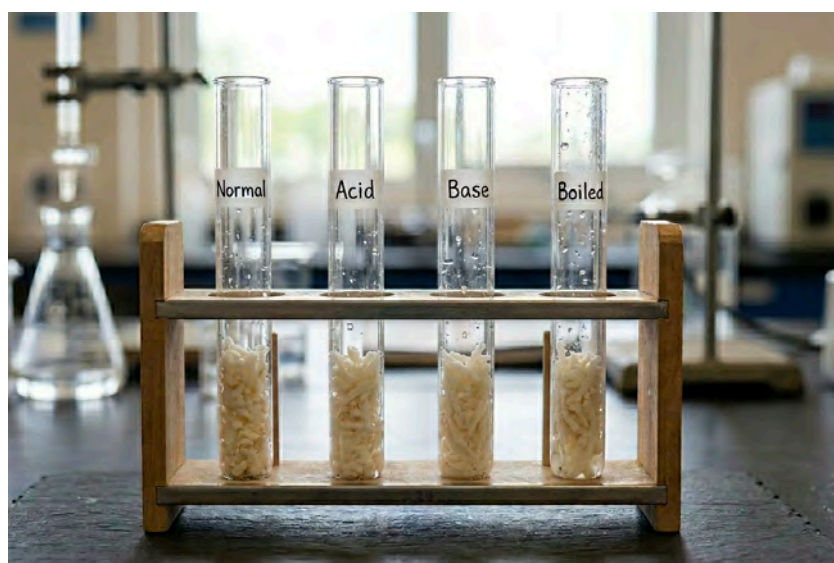

Figure 3. Four test tubes with grated sugar beet.
2. Fill 4 test tubes to 2 cm with 2.5 g of grated frozen sugar beet in each test tube (see figure 3).